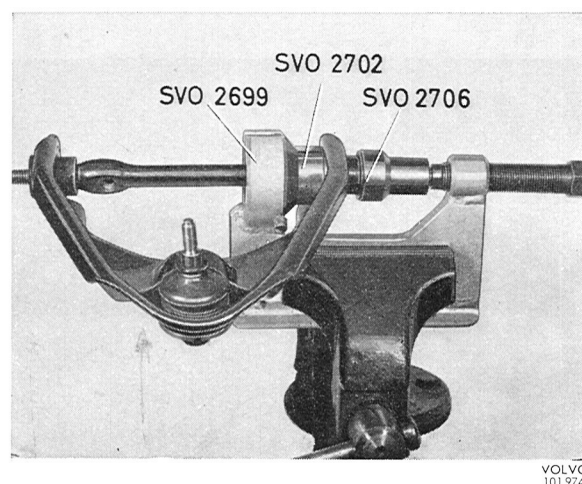

Fig. 6-36. Second rubber, upper control arm
4. Install the control arm shaft and press in the other bushing with the sleeve 2702 + drift 2706, see Fig. 6-36. Make sure that the shaft fits the recess of the tool 2702.